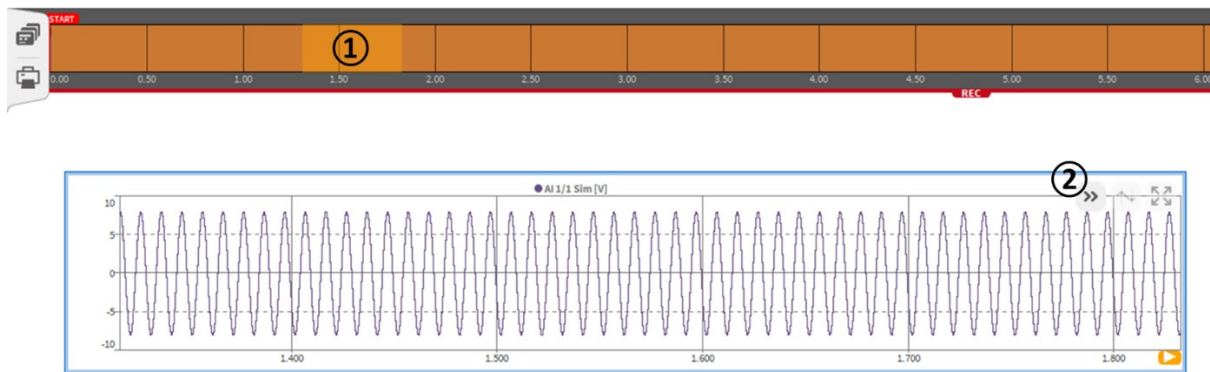

Fig. 8.25: Operational Features of DejaView™
While recording data, the user is free to use the Recorder to view data from the past, even during long duration recording. This feature is called DejaView™. For activating this function, the user must click with the left mouse button in the recorder or touch the recorder with his finger and drag or swipe to the right. From this point the user is also free to pinch or scroll zoom into the data. To quickly get back to looking at the current data the user can simply press the grey >> symbol (see ② in Fig. 8.25) and they will be snapped back into time with the current incoming data. This is one of the most **powerful** features of the OXYGEN software.
- Operational features of DejaView™ (see Fig. 8.25)
- ① Shows the part of the measurement file that is displayed in the recorder
- ② After pressing this button, the recorder will jump to the actual position of the measurement file and show the latest recorded data. A right click on this button makes the recorder show the recorded data from the recording start to the actual time position on the right end of the recorder